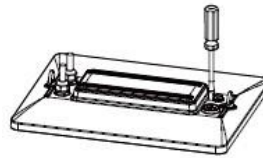

Figure 1
1. Remove the 3/4 plug on the back of the fixture with a screwdriver. (Figure 1)